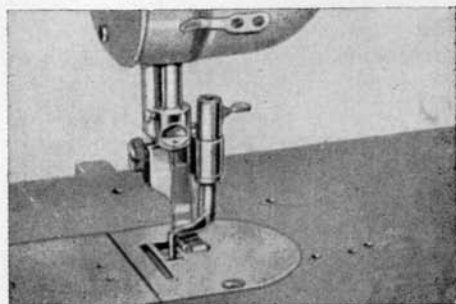

Fig. 41
- device for making tailored buttonholes (fig. 41),